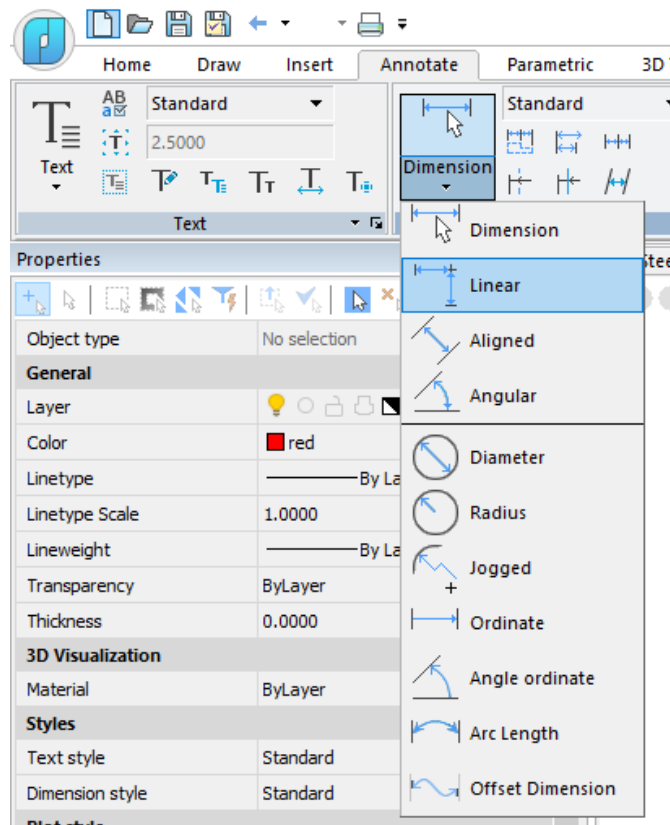
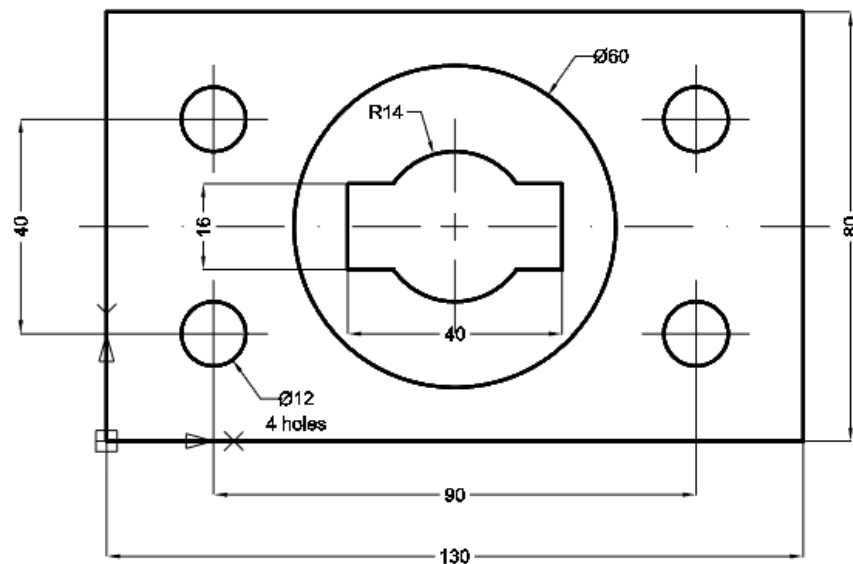

Fig. 12. Position of the Dimensions commands on the Ribbon
Fig. 13. The final result
10. Use the Dimensions command (fig. 12) to enter missed dimensions. The result of dimensioning should correspond to fig. 13.
That's all, the fig. 13 displays the final result of the work